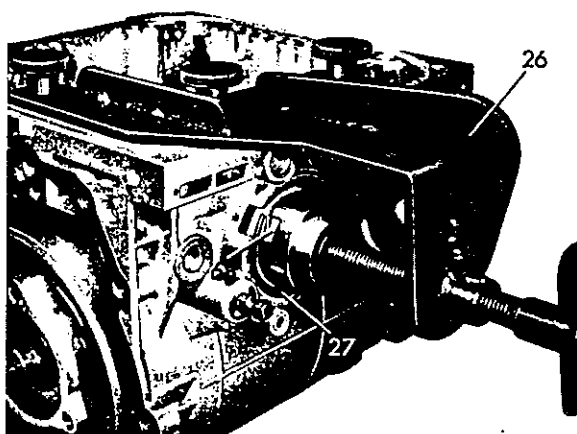

Fig. 52
35 Lock brake band piston cover B 1 by using snap ring (27) **Fig. 52**
37 Measure free play of brake band pistons B 1 and B 2. For the purpose, set brake band piston B 2 to the released position by means of compressed air via the release pressure bore (69) and scribe the end of brake band 2 on the brake band drum. Then set the brake band piston to the applied position by means of compressed air via the apply pressure bore B 2 (70) and again mark the end of the brake band on the brake band drum **Fig. 52**